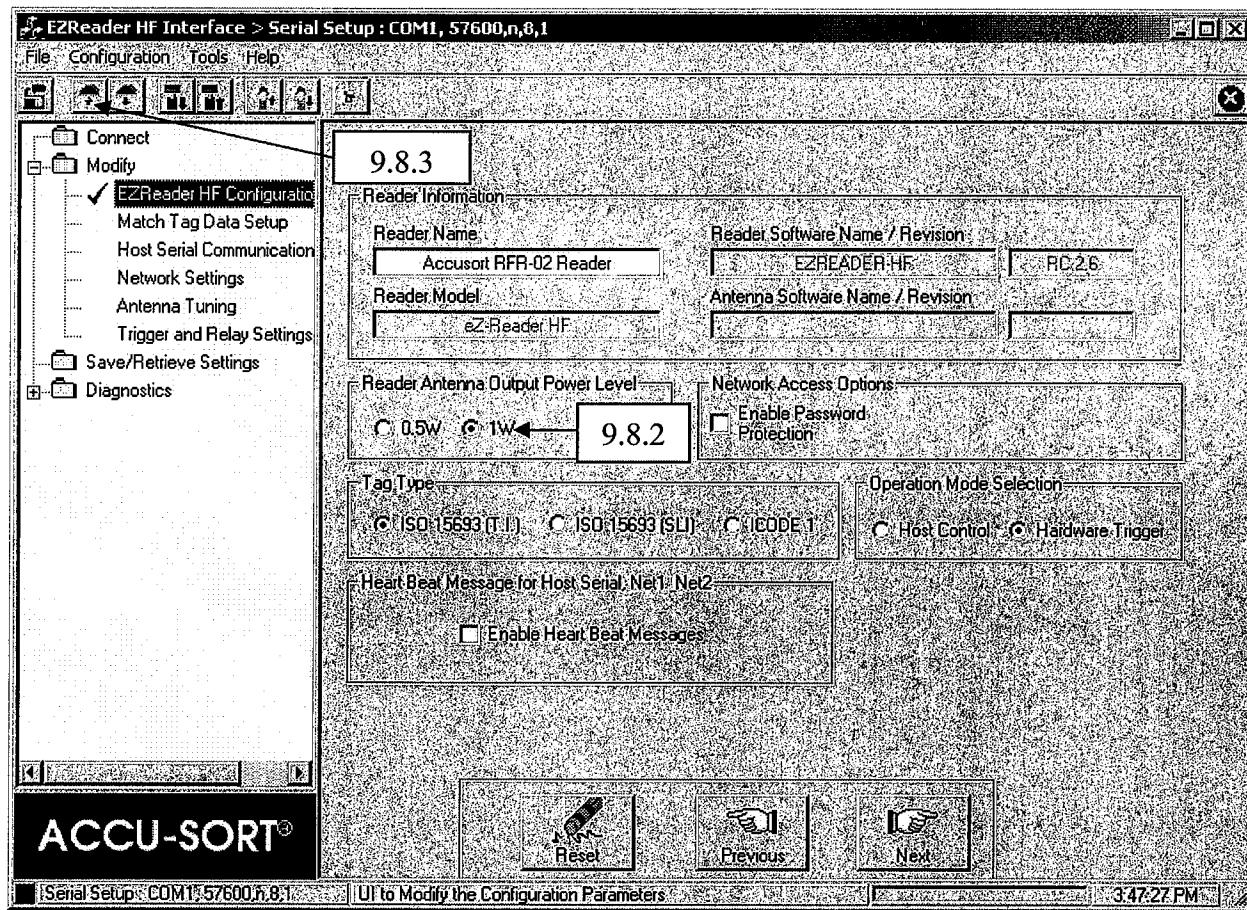

Figure 12
See Figure 12 for reference.
9.8.8 Once the level has been set; close the Antenna Power Fine Adjustment Screen and **SAVE** the Reader Parameters by pressing the button shown in Figure 12 and 13.
9.8.10 Referring back to Figure 12 select .5W for Reader Antenna Output Power Level and then **SAVE** the Reader Parameters.